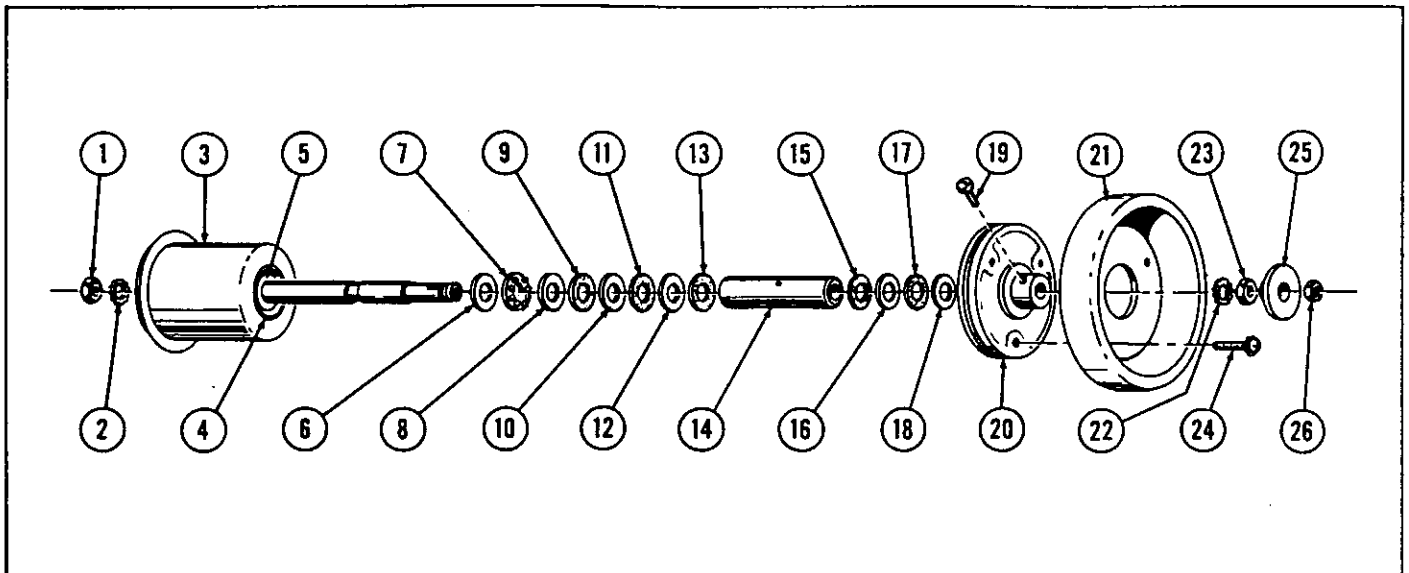

Fig. 100. SHIM PROCEDURE FOR ASSEMBLING THE TURNTABLE SHAFT
a. c. Shim Procedure for Assembling the Turntable Shaft. (Fig. 100)
After the thrust bearing group, Items 6, 7, and 8, Fig. 100, has been installed next to the turntable, three fiber washers and two metal washers (shims) should always be used on the turntable end of the turntable shaft in the same order as shown in Items 9, 10, 11, 12, and 13. The fiber washers and metal shims should always be oiled before assembly. The final washer assembly on the fly wheel end of the turntable shaft may vary in the number used to provide proper end play, however, the same rule applies as to the position of the fiber washers and oiling. This washer group should always start and finish with a fiber washer.